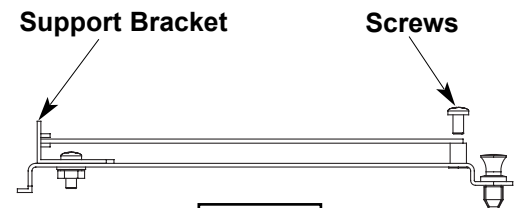

Figure 4
- 3) Position the controller panel over the mounting plate with the plate mounting tabs to the left and plunger to the right. Insert the left side of the board into the "Support Bracket" as shown and align the controller panel mounting holes (right side) with the threaded holes on the right side. Insert screws to secure the controller panel to the mounting plate. Refer to **Figure 4**.